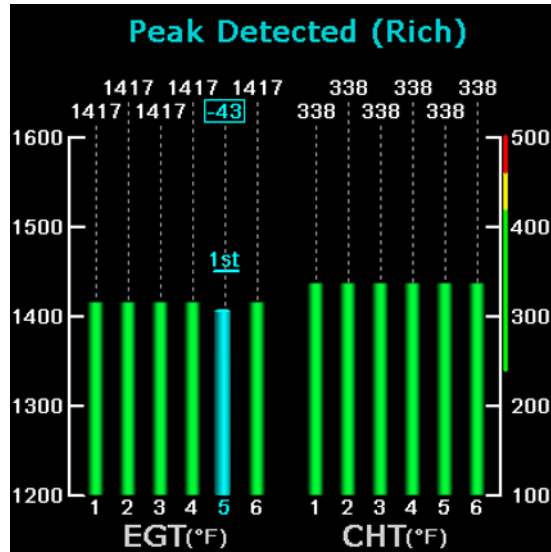

Figure 9.3 Leaning for Best Power
- 3) When leaning for best power, the final mixture setting is based on first cylinder to peak. As the mixture is leaned look for a rise in EGT. In the example shown in Figure 9.3, cylinder #5 is the first to peak, and *Peak Detected* displays on the Engine Page.